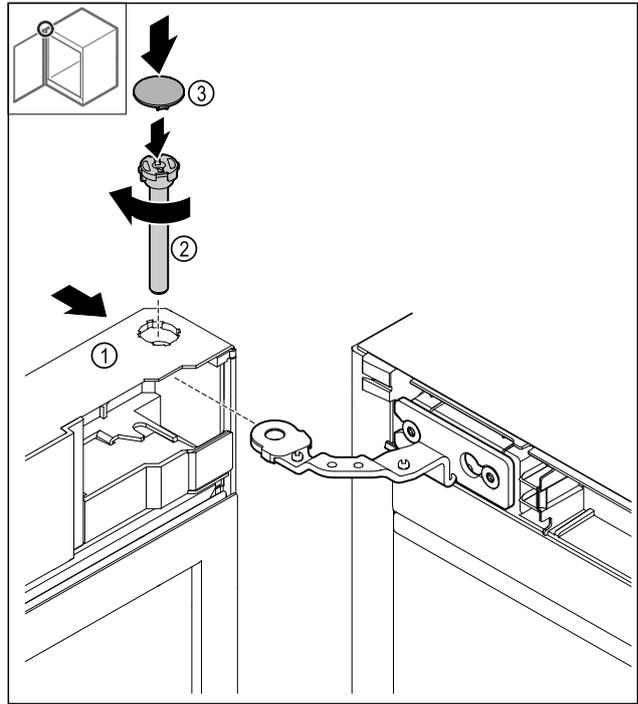

Fig. 46
- ▶ Slide the door Fig. 46 (1) onto the top hinge.
- ▶ Insert the bolt Fig. 46 (2) and turn it clockwise to tighten.
- ▶ Put on the cover Fig. 46 (4).